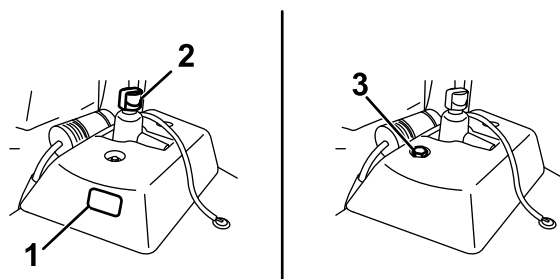

Figure 54
- If the auxiliary hydraulic tank has a sight window, check the oil level there (Figure 54), and proceed to step 5.
- If the auxiliary hydraulic tank does not have a sight window, locate the dipstick on the top of the machine (Figure 54) and proceed to step 3.